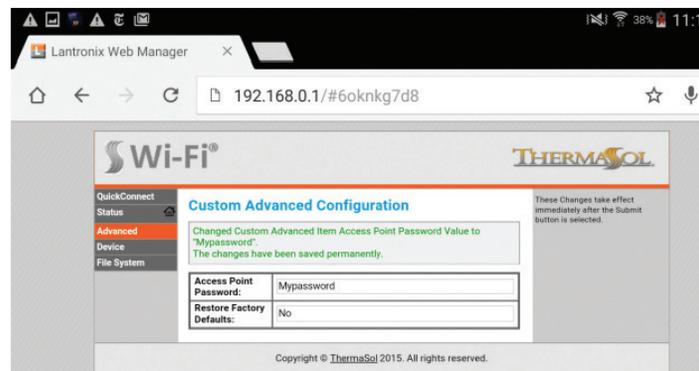

Figure 14: Password protection for direct connect mode
4. Enter your own password for the access point and then press submit. The change will be confirmed as shown below in Figure 14